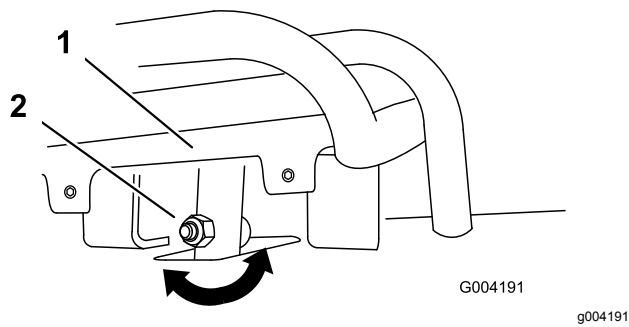
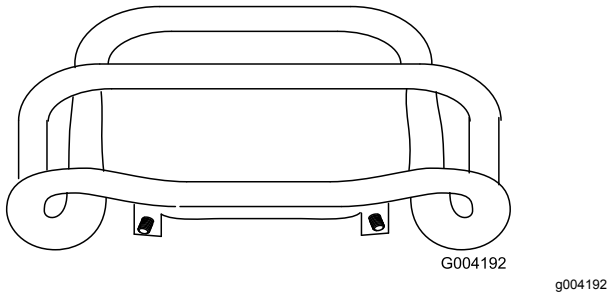

Figure 53
Figure 54
4. If the front of the traction control does not rest square and flush with the reference bar, loosen the nut and bolt in the stem of the traction control (Figure 53).
5. Adjust the traction control so that it rests flush against the reference bar when it is pulled straight back (Figure 53 and Figure 54).
- Loosen the flange nut and bolt in the stem of the traction control (Figure 53).
- Adjust the traction control so that it rests flush against the reference bar when it is pulled straight back (Figure 53 and Figure 54).